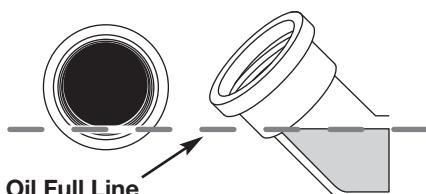

Fig. 12
3. Look into the oil fill hole (Fig. 10). If the oil level comes up to the first thread, then the oil is full (Fig. 12). If it does not, fill with oil until it does.